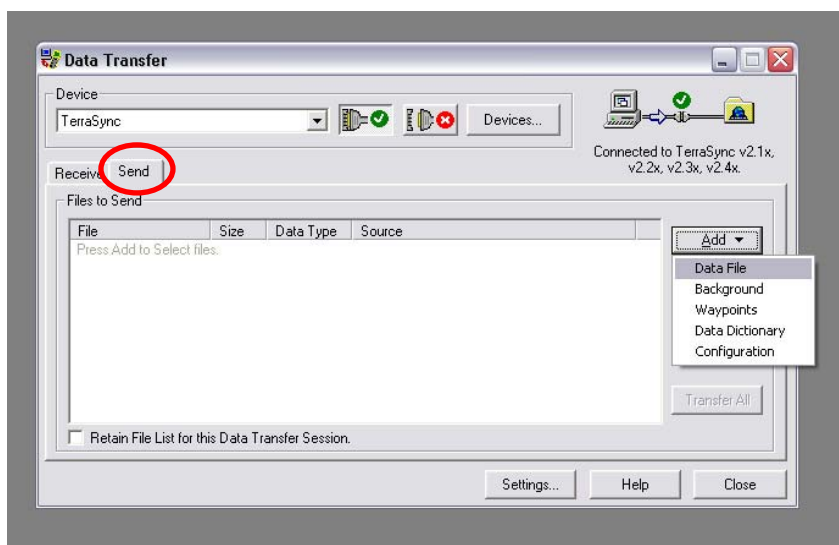

Figure 7. Sending Data File
6. Now select the Send tab (Figure 7), and go to Add>Data File. Select the file you just transferred (it will have the same name as the Terrasync file) and click Open. Now click Transfer All to move the file back to Terrasync.